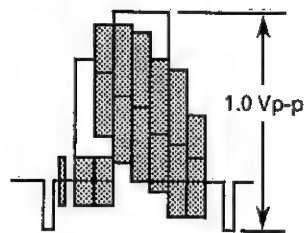

Figure 2-5.
2. Play the colour bar portion of the alignment tape and adjust R201 so that the signal amplitude is 1.0Vp-p as shown in Figure 2-5.